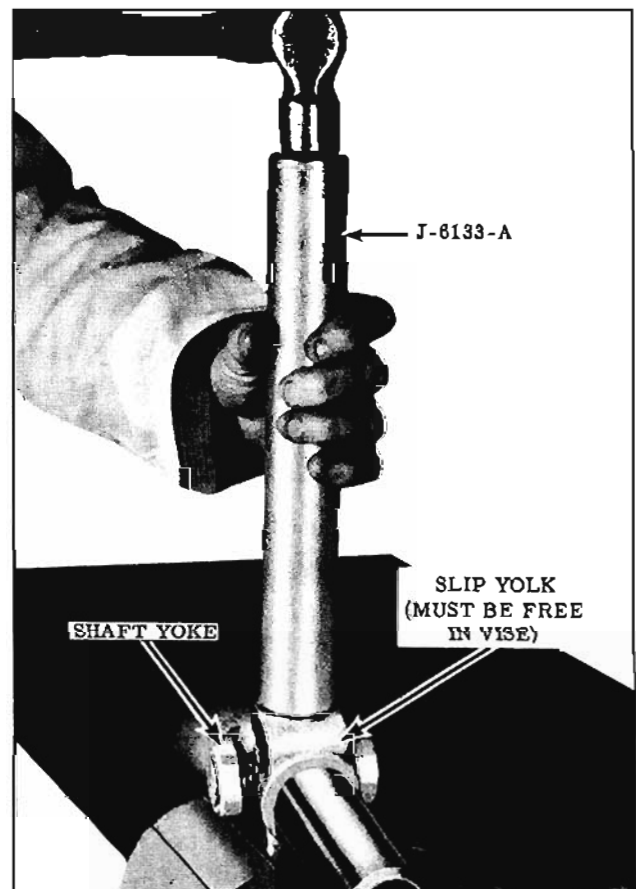

Fig. 10-144 Partial Bearing Removal
3. Apply force on yoke around bearing. (Fig. 10-144) This will drive the slip yoke down causing spider to force bearing partially out of the yoke.